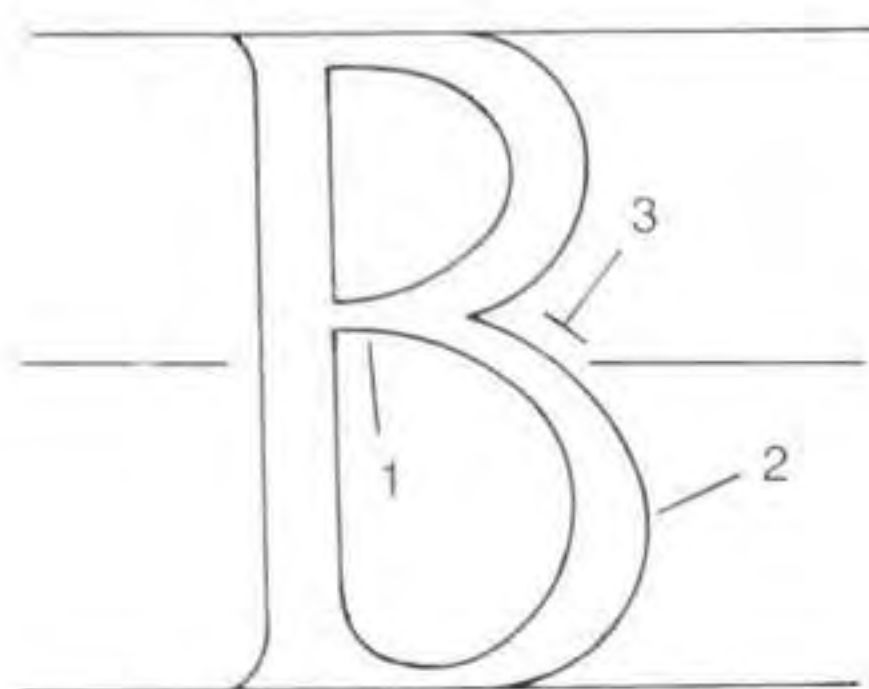

Fig 6.3 Features of the letter B.
See Fig 6.3. Although the 'natural' division of this letter would seem to be symmetrically about the mid-line, this actually makes it appear unstable. The centre join between the lobes is raised about one half unit. Optically, this will look in the mid-position (1). This enlarges the lower lobe, with an extra width of about one unit over the upper lobe (2). Don't make the lower lobe too wide, or the letter will look fat.